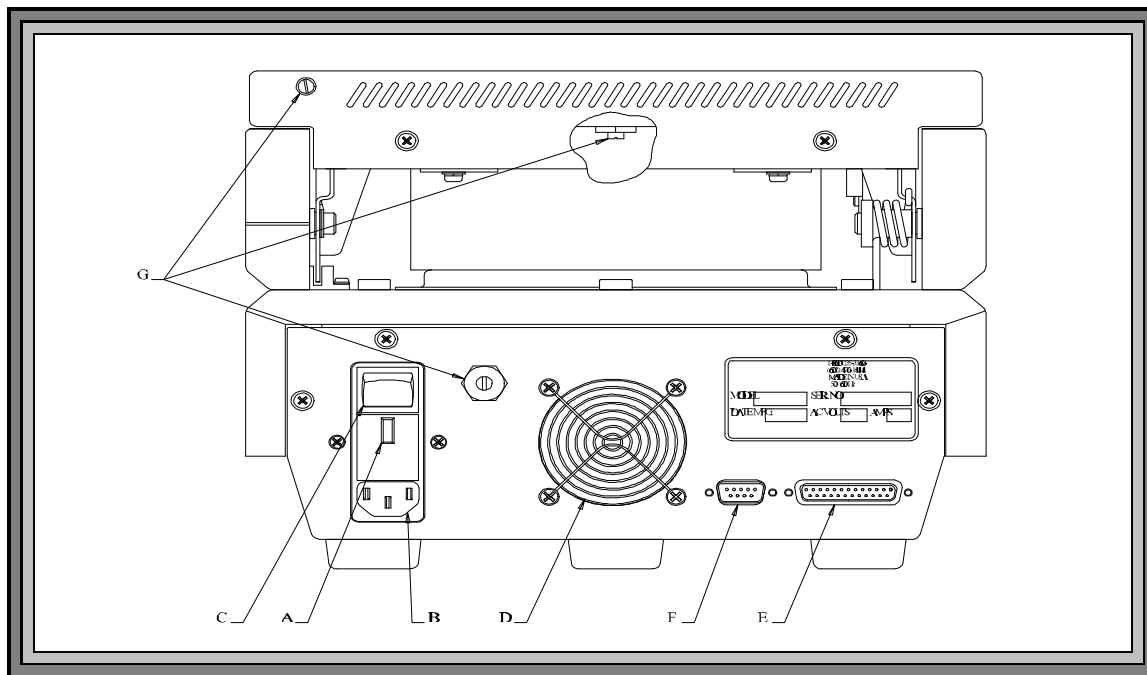

Figure 6 MAX-500 REAR VIEW
- 4.2.1 The MAX-500 can be used with either 120 or 240 VAC. Check the setting on the fuse holder ("A" on **Figure 6**) for correct voltage (100-120 or 220-240 volts) from your power receptacle.
- ! Change the fuse: a 100-120 unit should have an eight (8) amp slow blow fuse, (AZI P/N 190-1001) and a 200-240 unit should have a (4) amp slow blow fuse (AZI P/N 190-1002).
- ! Slide the card in the center of the fuse holder out, turn it around, and slide it back in so that the correct voltage shows through the window ("A" on **Figure 6**).
- 4.2.3 Remove the power cord from the packing material and insert the rectangular end into the power receptacle ("B" on **Figure 6**) at the rear of the instrument. Be sure that the power switch ("C" on **Figure 6**) located above the power receptacle is in the off (O) position.
- 4.3.1 If you have a printer, connect it to the larger of the two "D" connectors ("E" on **Figure 6**) at the rear of the instrument. Use any standard Centronics parallel PC printer and printer cable. (Test information will print at the end of each test, or at preset intervals. For more details, see PRINTER SETUP on page 37 and REPORT CONTROL OPTIONS, page 33.)
- 4.3.2 If you would like data output to a computer, attach a null modem cable to the 9-pin, RS-232 connector ("F" on **Figure 6**). See the section on DATA OUTPUT TO A COMPUTER, page 19 for more information.
- 4.4.1 Make sure instrument is OFF. Plug the power cord into a power outlet. Press the MAX-500 power switch ("C" on **Figure 6**) at the end marked (I). Observe that the fan ("D" on **Figure 6**) next to the power receptacle begins to rotate. If it does not, check to be sure that power is present at the outlet being used.
- 4.5.1 Some applications (such as black liquor solids analysis) require the use of a nitrogen purge to remove volatiles from the chamber. If a nitrogen purge is to be used, and your instrument is factory equipped with the "nitrogen purge" option, attach the diffuser to the inside of the heater box and the hose barbs and tubing to the round ports on the rear of the lid and instrument body ("G" on **Figure 6** on page 12).
- 4.6.7 From the back of the unit, remove the plug from the lower portion of the unit, (see **Figure 6**).